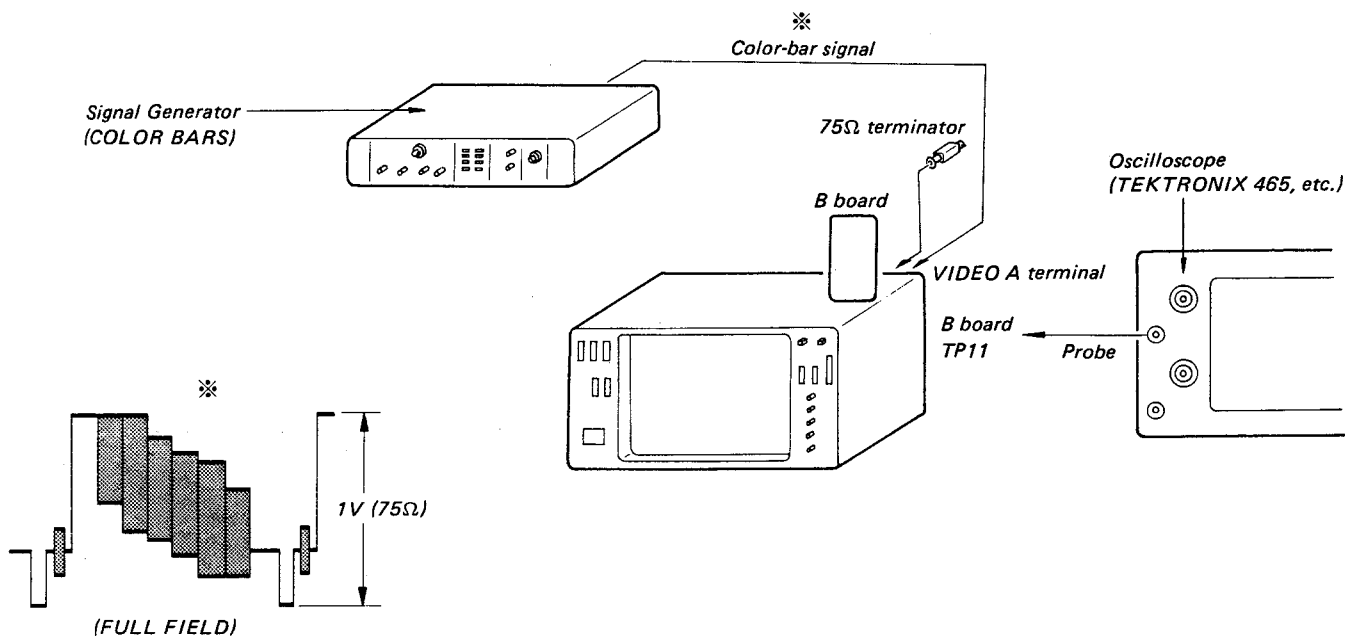

Fig. 5-46.
1. Complete the connections as shown in Fig. 5-46.